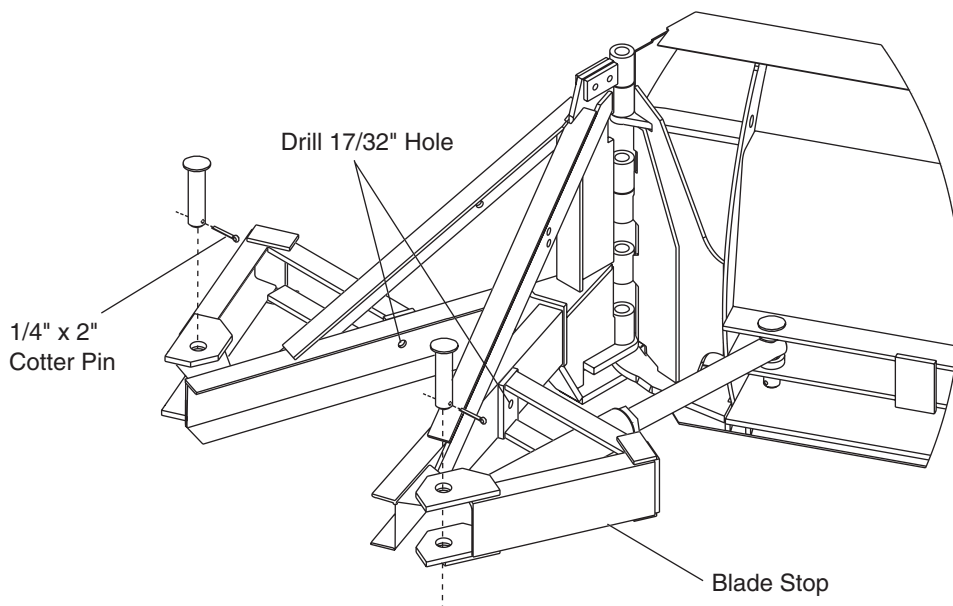

Figure 19
2. Temporarily install the blade stops on the A-frame with the 1" x 6" pivot pins included in the kit. Rotate the blade stop up against the A-frame channel iron and mark the location of the mounting hole that corresponds to the blade stop. **(See figure 19.)** After marking hole position, remove blade stops.